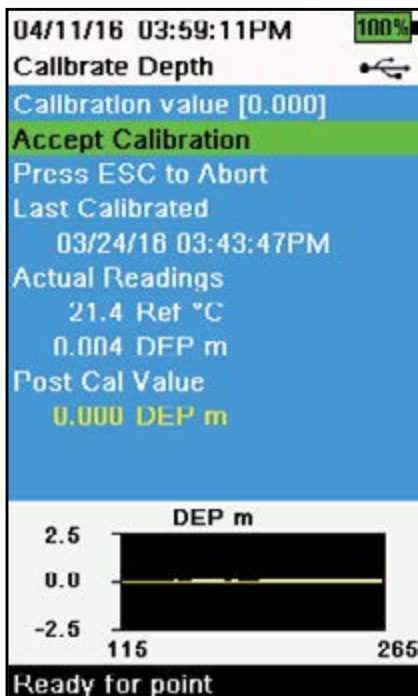

Figure 41 Calibrate Depth
3. Observe the actual measurement readings for stability (white line on graph shows no significant change for 40 seconds), then select **Accept Calibration** (Figure 41). "Calibration successful!" will be displayed in the message area.